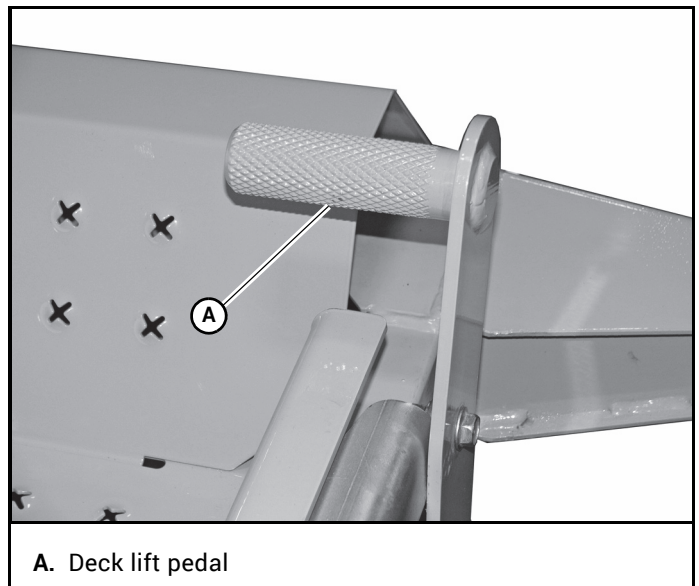

Figure 3-4
- B. **Deck lift pedal (Figure 3-4)** – the deck lift pedal is used to raise or lower the deck. Push on the pedal to raise the deck and then place the adjusting pin into the desired cutting height hole. Release the pedal.